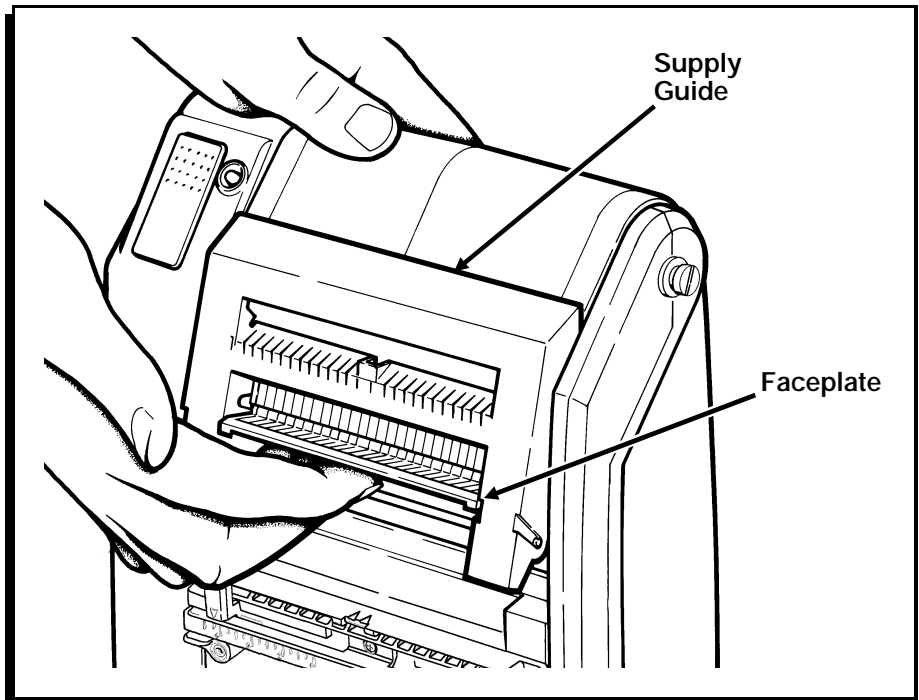

Figure 21
1. Insert your fingers into the depression beneath the faceplate and pull up. (Figure 21.)